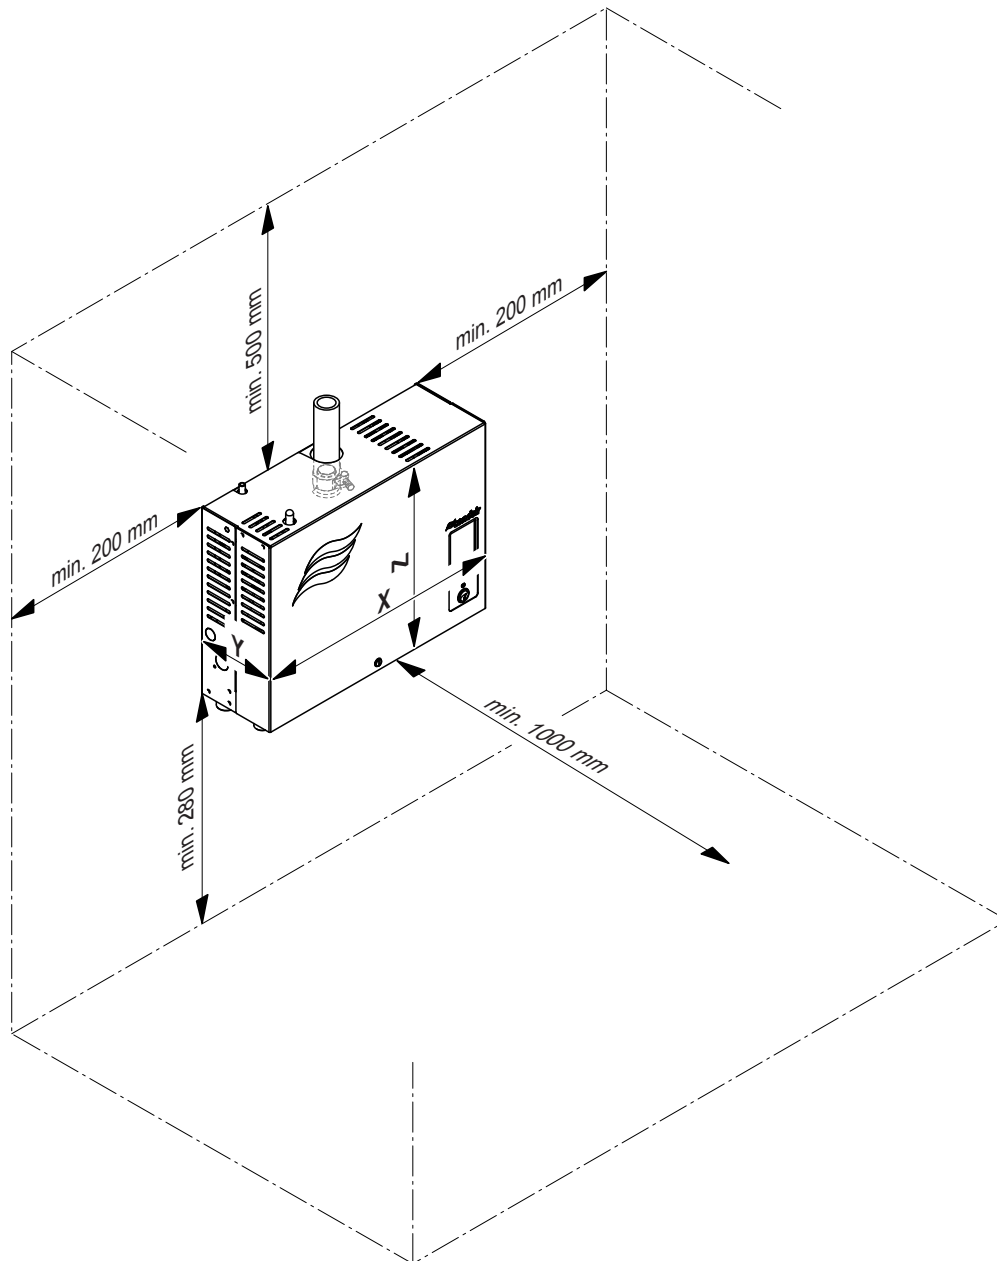

Fig. 3: Distances to be observed
- The Condair RM is designed for wall-mounting or floor mounting (with the optional floor supports) in protected interiors. Make sure that the construction (wall, pillar, floor-mounted console, etc.) to which or on which the steam humidifier is to be mounted, offers a **sufficiently high load-bearing capacity** (take notice of the weight information found in the dimensions and weights table after Fig. 3), and is suitable for the installation.
- Install the Condair RM in such a manner that it is **freely accessible** with sufficient space available for maintenance purposes. The **minimum distances** shown in Fig. 3 **must be maintained**.